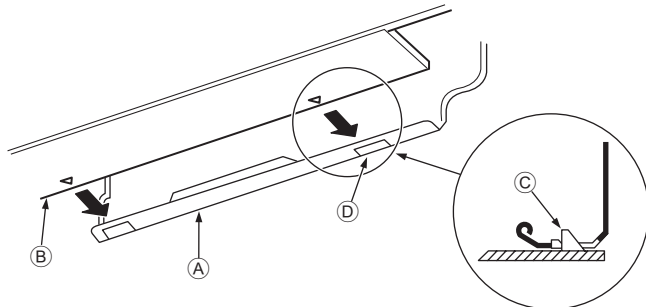

Fig. 3-15
- While inserting the refrigerant piping and drain hose into the wall penetration hole (penetration sleeve), hang the top of the indoor unit to the mount board ①.
- Fasten by pushing the bottom part of the indoor unit onto the mount board ①. (Fig. 3-15)
- * Check that the knobs on the bottom of the indoor unit are securely hooked into the mount board ①.
- Ⓐ Mount board ①